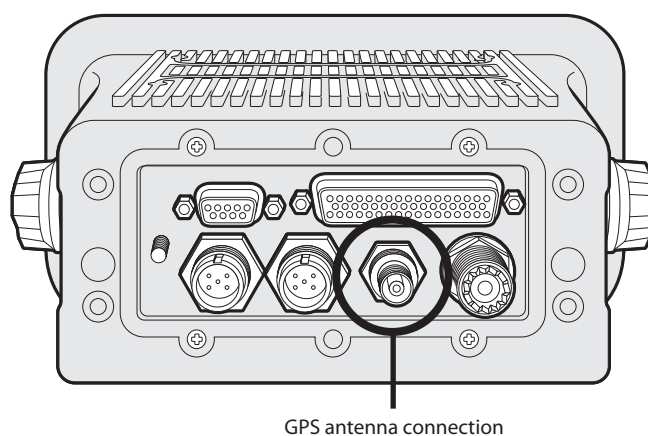
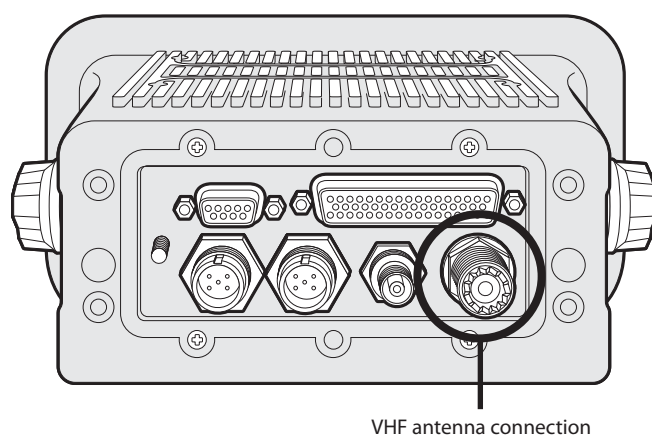

Figure 40 GPS antenna connection
Figure 42 VHF antenna connection
- Connect the GPS antenna cable to the GPS connector on the AIS transceiver as shown in Figure 40.
- Connect the VHF antenna cable to the VHF connector on the AIS transceiver as shown in Figure 42.
If antenna connections have not already been made the GPS and VHF antennas should now be connected to the transceiver. Refer to Figure 40 and Figure 42 for guidance.